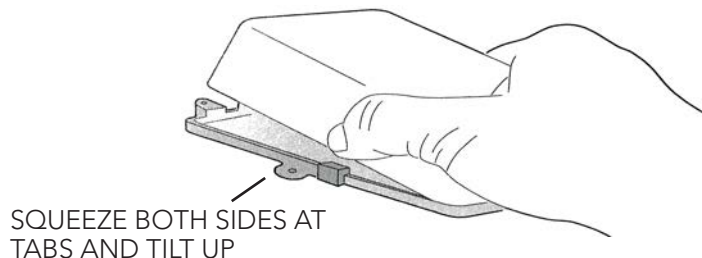

FIGURE 3: Removing Receiver Cover
1. Remove top cover by squeezing both sides of cover at the tabs and tilting up (Figure 3).